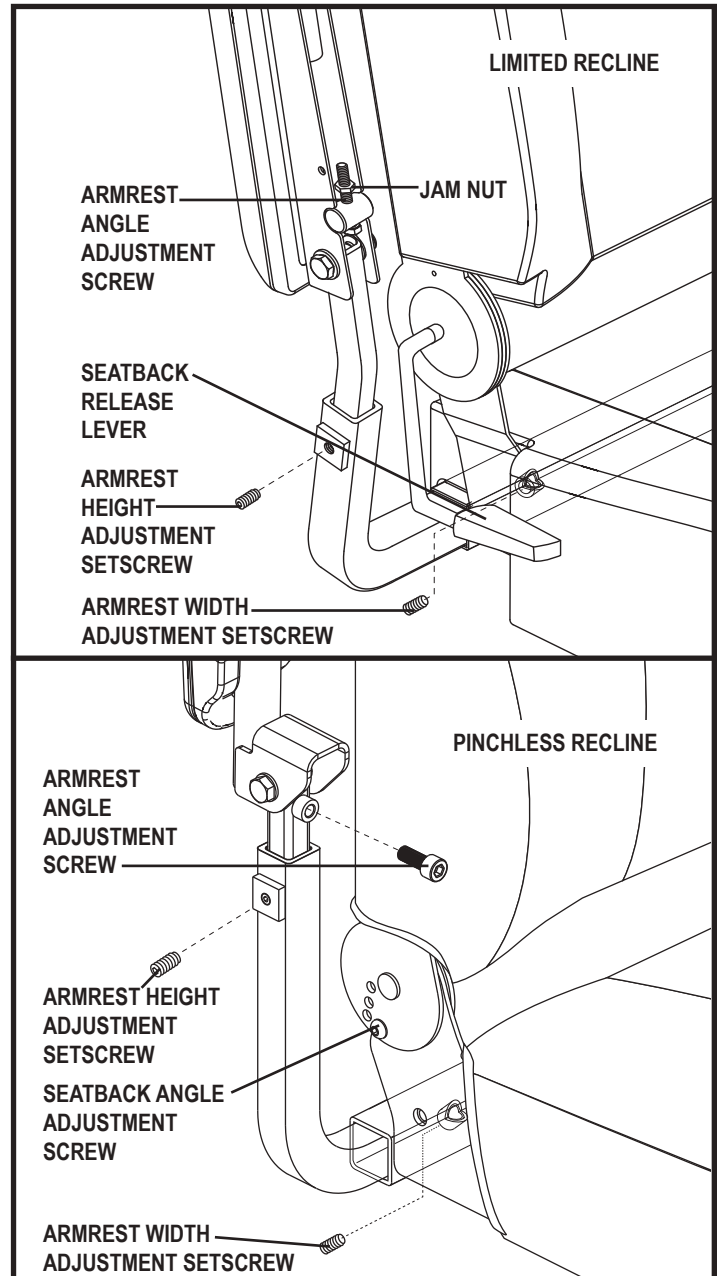

Figure 13. Armrest and Seatback Adjustments
If your power chair is equipped with a recline seatback, you can adjust the seatback angle using either hardware or the seatback release lever. **See figure 13.**
1. Locate the armrest width adjustment setscrew on each side of the armrest receiver bracket. **See figure 13.**
1. Loosen the setscrew on the armrest. **See figure 13.**